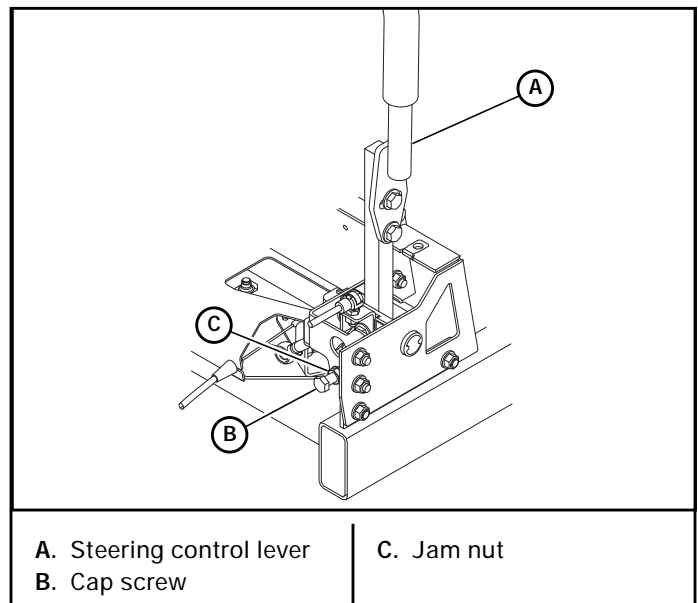

Figure 4-6
- On the side that is going the slowest, locate the lower cap screw and jam nut on the back side of the steering control lever bracket. Figure 4-6
- On the side that is going the fastest, locate the lower cap screw and jam nut on the back side of the steering control lever bracket. Figure 4-6